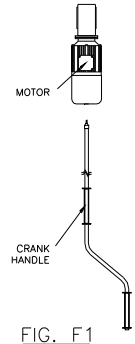

FIG. F1
- \* Use **Manual Crank Handle** to turn Fabric Roll (Figure F1).